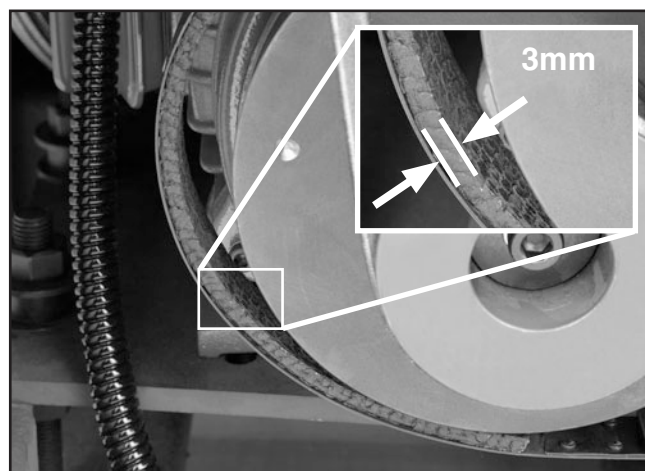

Figure 122. Minimum brake band lining thickness.
4. Measure the remaining brake band lining at the thinnest point, usually at the 8 O'clock position (**Figure 122**).